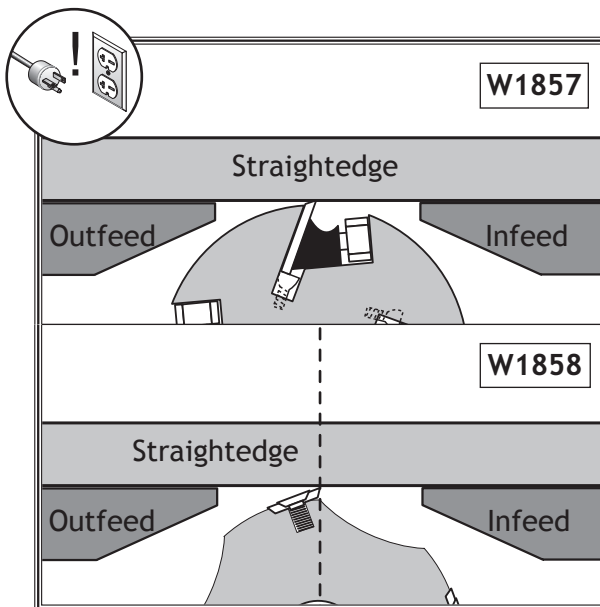

Figure 62. Infeed table even with outfeed table.
4. Adjust the infeed table until it is even with the outfeed table (see **Figure 62**).